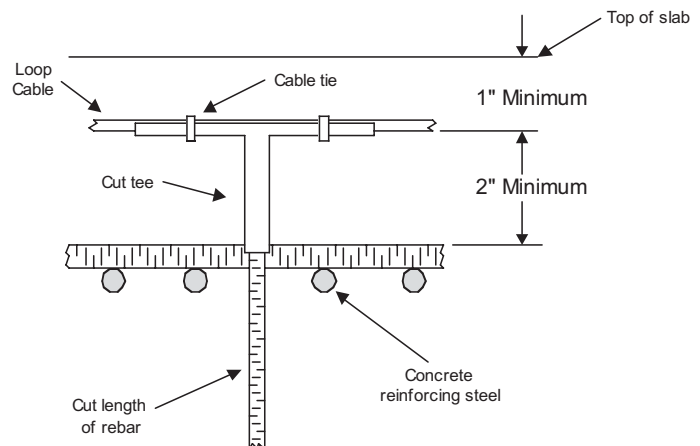

Figure 2
4. Use the tees, rebar, and nylon cable ties to hold the loop cable in place at least 2" above the concrete reinforcing steel. See Figure 2. The lead-in cable can be tied directly to the concrete reinforcing steel.
3. If the thickness of the concrete slab and/or the depth of the reinforcing steel below the top of the slab is such that the minimum dimensions shown in Figure 2 cannot be achieved, contact Technical Support at Reno A&E for guidance.